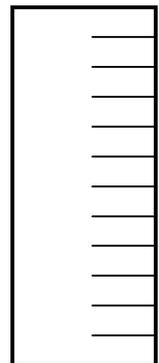

Figure 1
- d. Cut TripleSeal strip: 6" wide to wrap the pipe with 2" overlap. Every 1", cut 3" flanges across the TripleSeal strip (Figure 1).